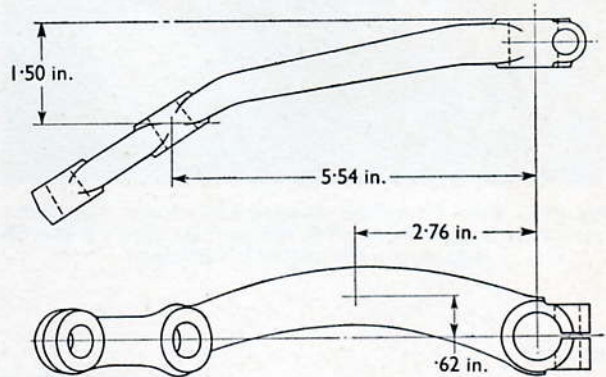

Fig. M.11. Steering relay lever checking dimensions
2. Check the lever for alignment against the dimensions in Fig. M.11.